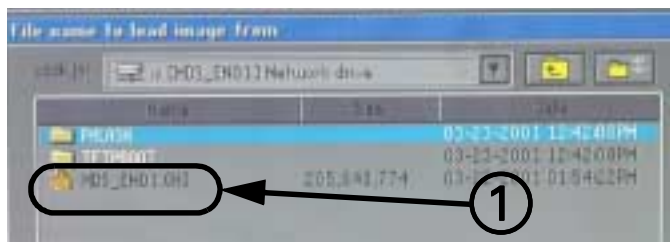
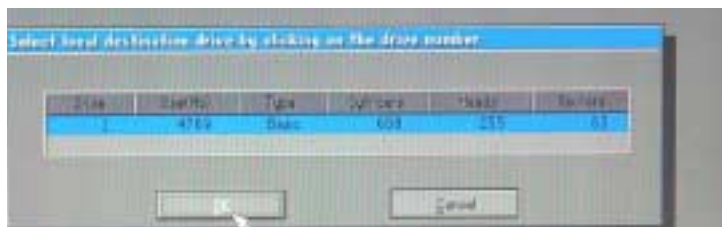

Figure 15-19 Image Folder (Image file)
Figure 15-20 Drive Number Window
5. Click on xxxx_xxxx.GHO (① in Figure 15-19) to open "Select local destination drive by clicking on the drive number" window (see Figure 15-20).
6. Click on *OK* button to open "Destination Drive Details" window (see Figure 15-20).